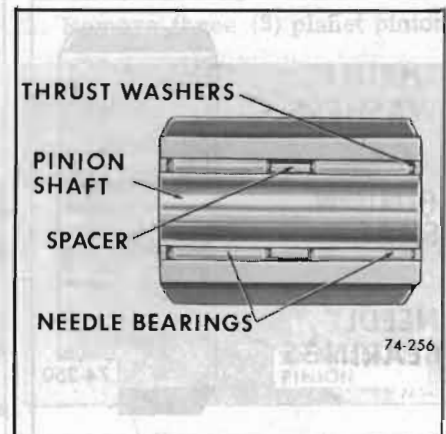

Figure 74-263
4. Coat inside pinion gear with petrolatum. Install Pinion Shaft into long planet pinion gear. Install twenty (20) needle bearings, spacer, twenty more needle rollers, and two (2) thrust washers. See Figure 74-263.